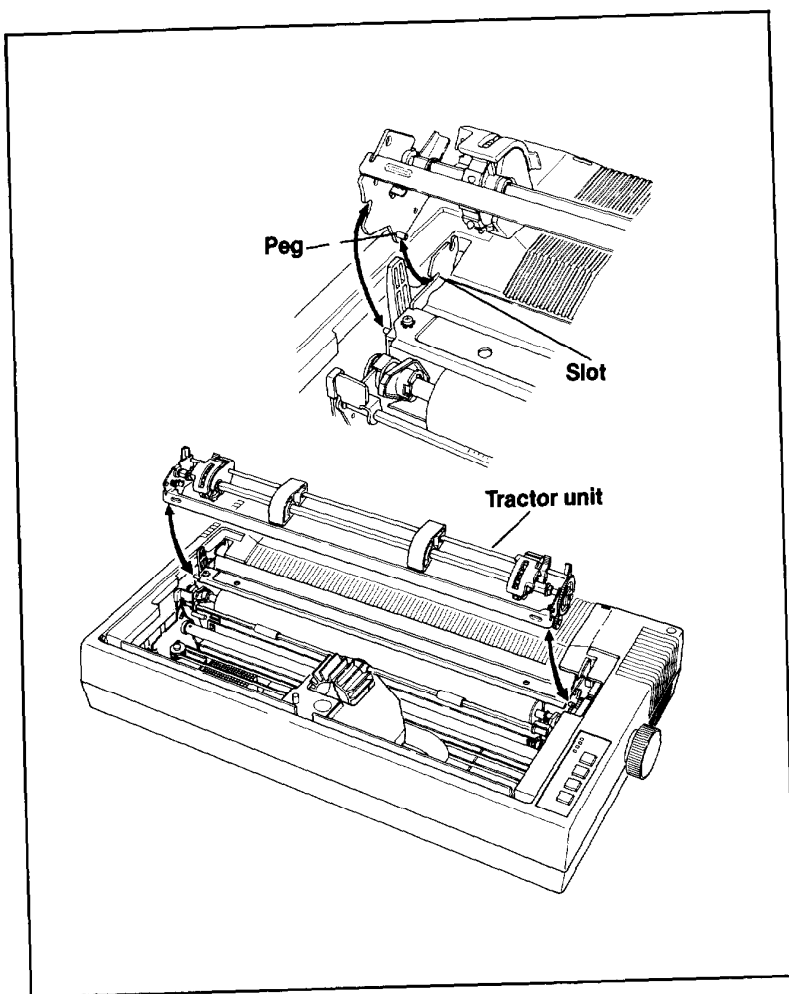

Figure 3-4. Tractor unit *installation*
4. Locate the metal brackets on either side of the printer. These brackets have two functions: they hold the sheet guide unit and the tractor unit. Notice that there are two unused wedge-shaped slots which will hold the tractor unit. Pick up the tractor unit by each end and slip the tiny silver pegs into the open slots (see Figure 3-4).